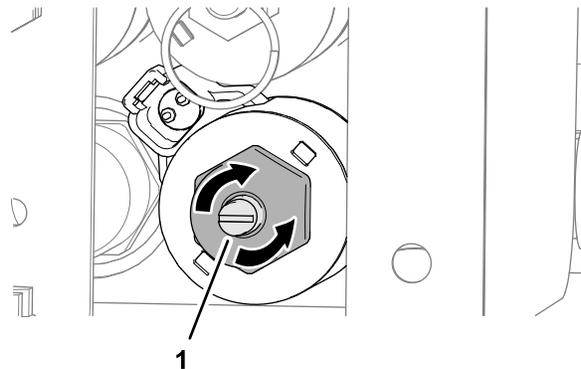

Figure 37
1. Rotate the hex-head screw for the valve override clockwise to increase the floor speed (Figure 37).